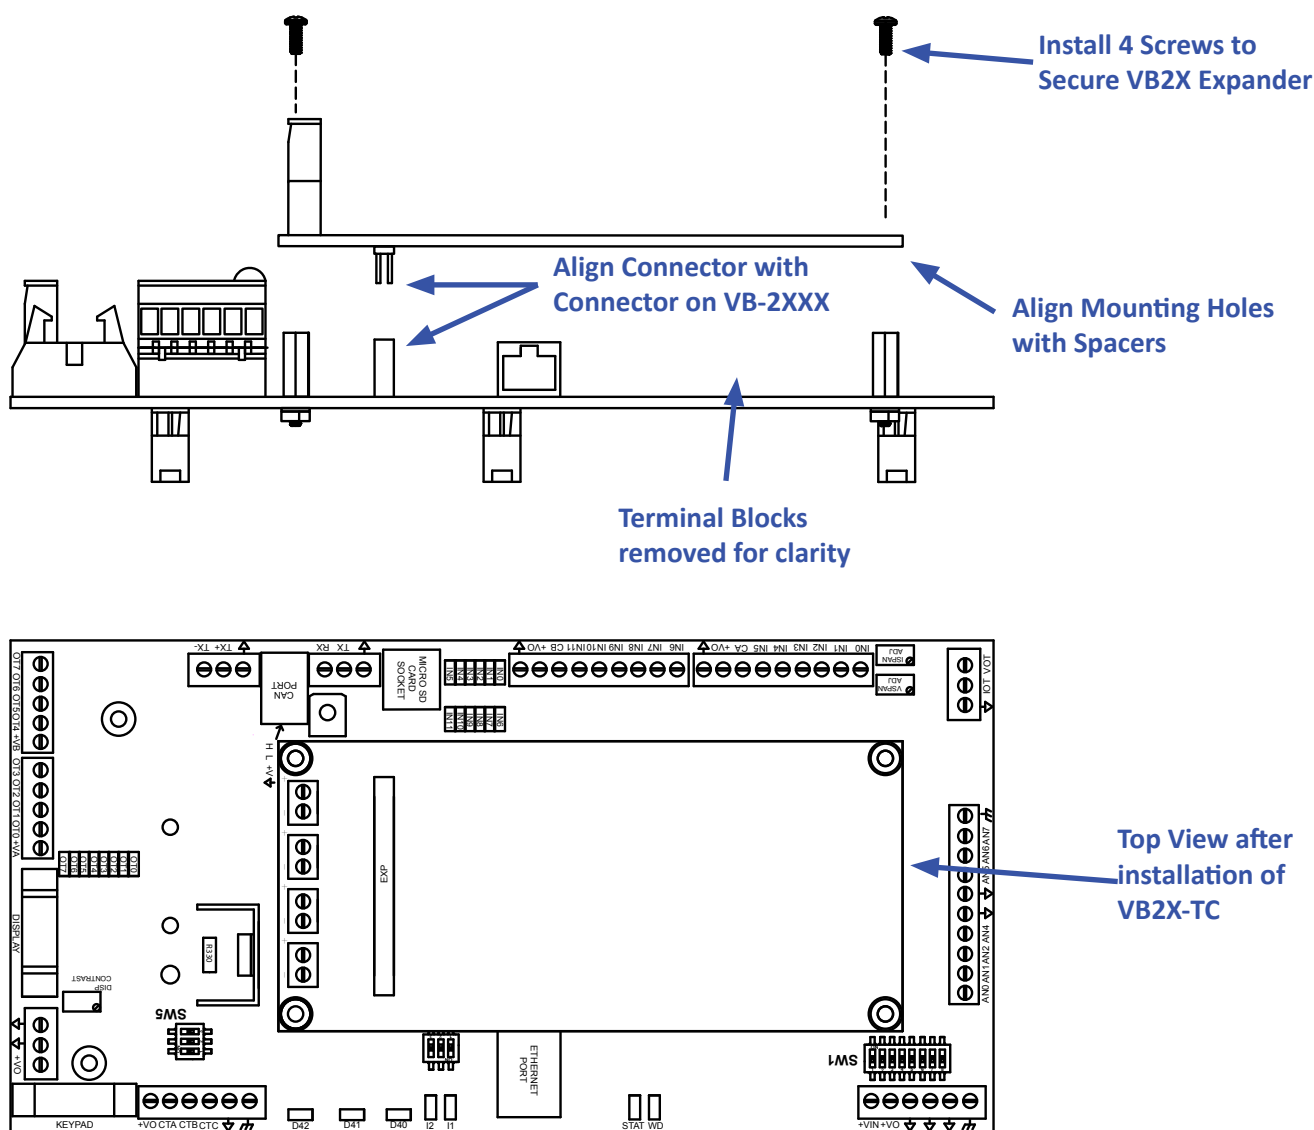

Figure 1-2 - Mounting the VB2X-TC
- Carefully aligning the VB2X-TC with the installed spacers, gently plug the VB2X-TC into the EXP connector on the VB-2XXX. Ensure proper alignment on EXP. When installed correctly, all the VB2X-TC pins will be plugged into the EXP connector and the VB2X-TC will be placed against the spacers and the mounting holes will align with the spacers correctly. Refer to Figure 1-2.